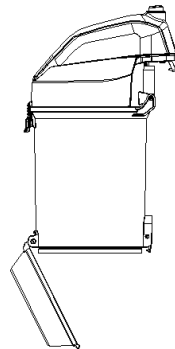

Fig.9
4. As in Fig.9, shut up the dust cup for a circular use after your cleaning